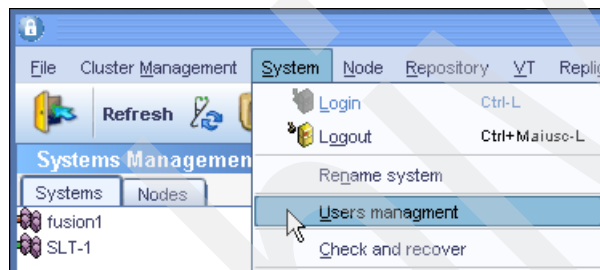

Figure 8-16 Select Users management
1. Log into the ProtecTIER Manager system as Administrator. Refer to 8.1.3, “Logging into and out of the ProtecTIER Manager” on page 172 for “Default username and password” and select **System** → **Users management** (Figure 8-16).